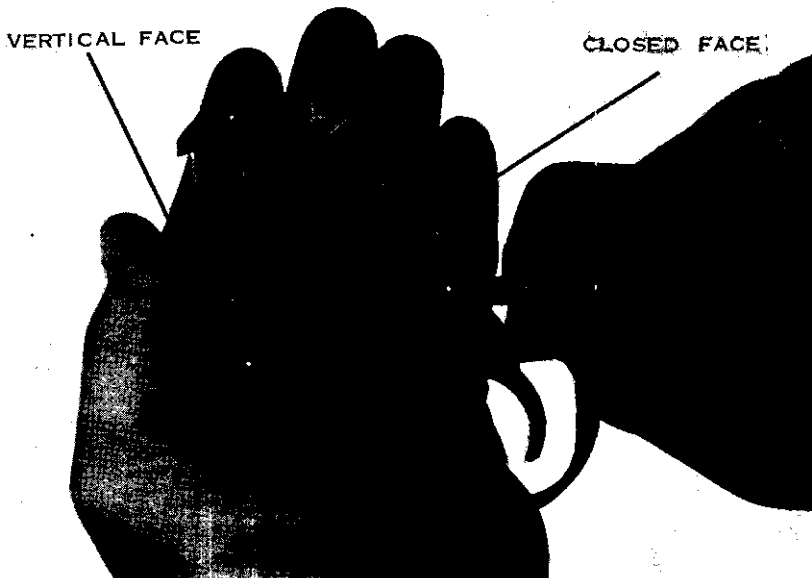

Figure 20. Unseating the trigger pin.
a. Close and latch the trigger guard. Place the safety in the off position and press the trigger, allowing the hammer to go forward. Hold the firing mechanism assembly in your left hand with the vertical face to the left and the open face against your palm. With the tip of a cartridge, apply pressure on the trigger pin until its head is unseated (fig. 20). Next, hold the firing mechanism assembly with your right hand, open face up, trigger